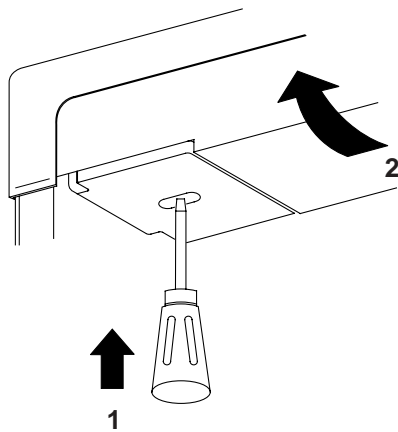

**FIG. 6**
2. Once the lower front strip is slipped under the hinge, the part is possible to swing into place as shown in FIG. 6.
One screw through the hinge, and on the opposite side one screw through the lower front strip. (FIG. 6).